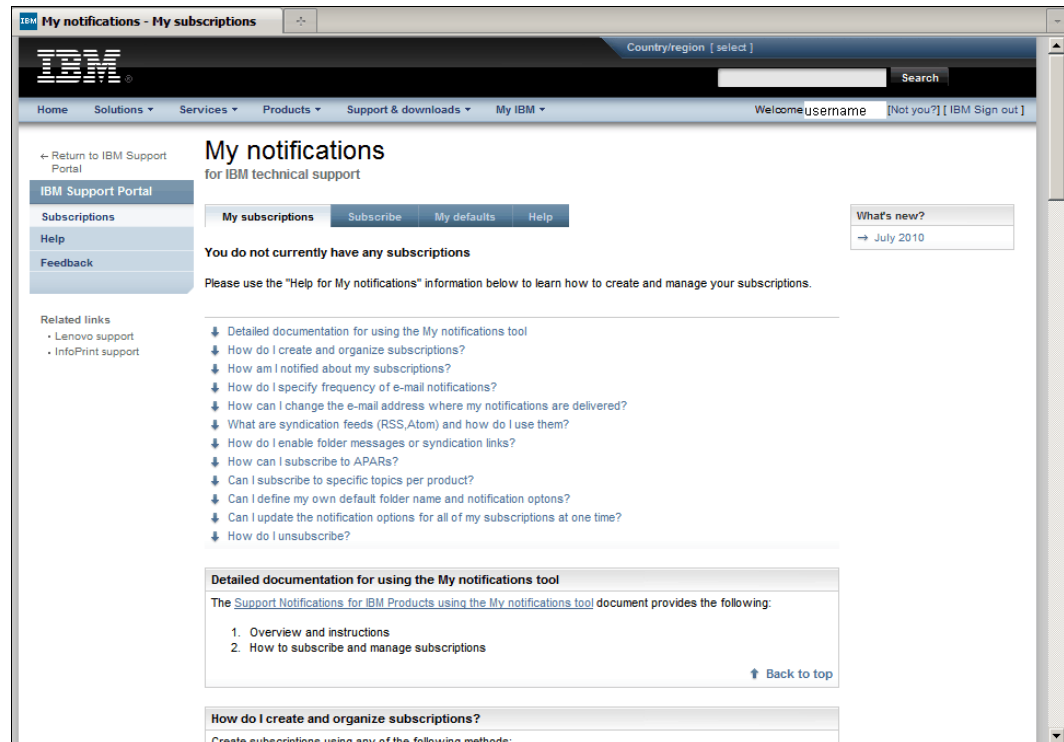

Figure A-17 My notifications
- The My notifications main page opens as shown in Figure A-17.